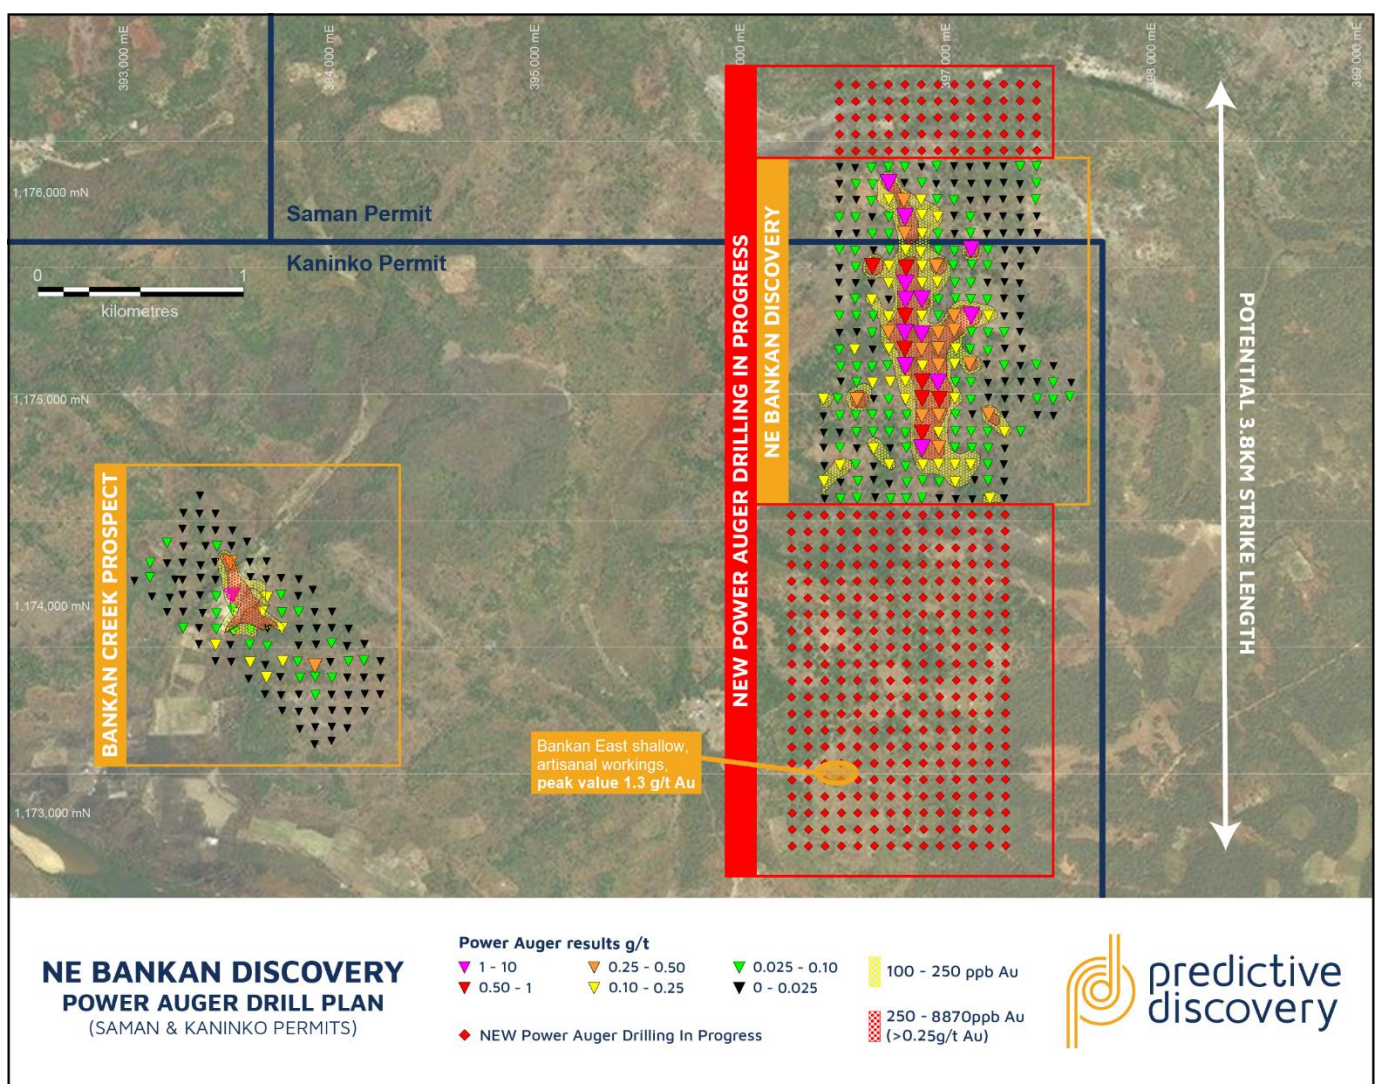

Figure 2 – NE Bankan Discovery showing location of power auger drilling underway within Predictive's Kaninko and Saman Permits
- » This power auger drilling (Figure 2) will extend drill coverage to a **combined 3.8km length**.